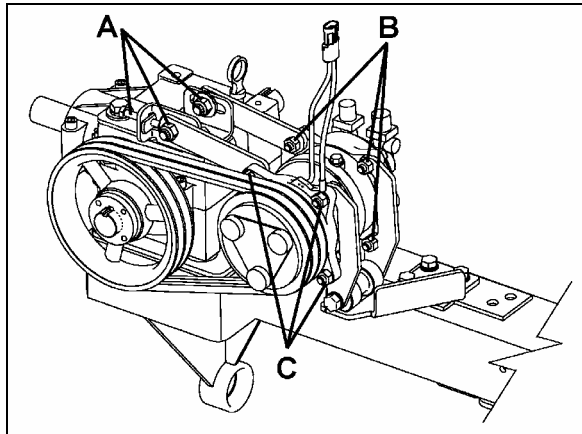

FIGURE 35: COMPRESSOR REMOVAL OR INSTALLATION 22285
- * Slacken bolts A (Refer to figure 35).
- * Remove bolts B & C (Refer to figure 35).